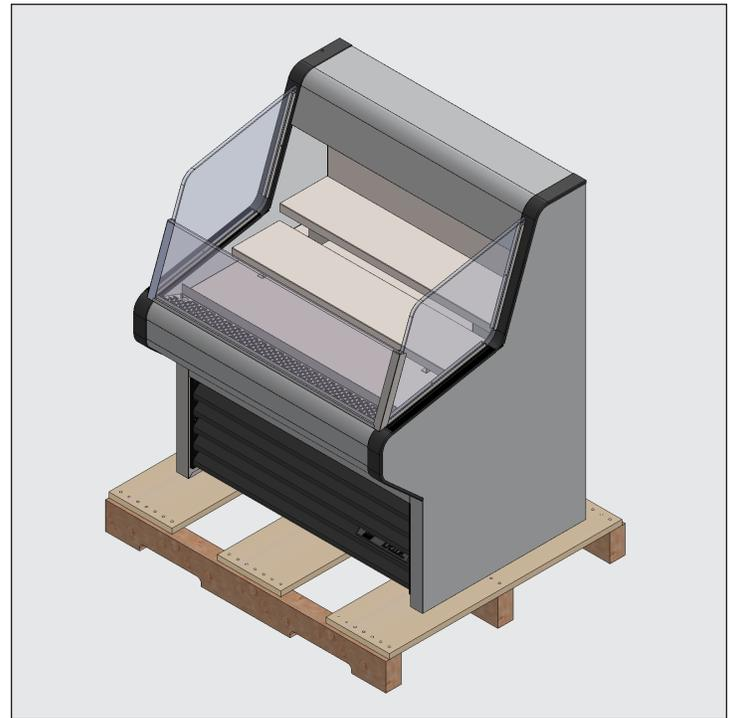

Fig. 1. Remove the exterior packaging.
1. Remove the outer packaging (cardboard and bubble wrap or Styrofoam corner and clear plastic). See fig. 1. Inspect for concealed damage. **Again, immediately file a claim with the freight carrier if there is damage.**